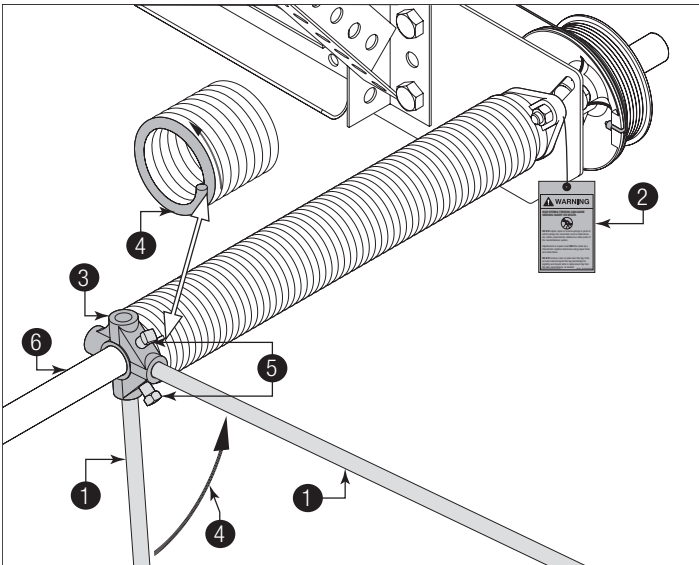

Figure 69
**PRIOR TO WINDING THE SPRING, ENSURE YOU'RE WINDING IN THE PROPER DIRECTION AS SHOWN IN FIGURE 69. OTHERWISE THE SPRING FITTING MAY RELEASE FROM SPRING AND RESULT IN SEVERE OR FATAL INJURY.**